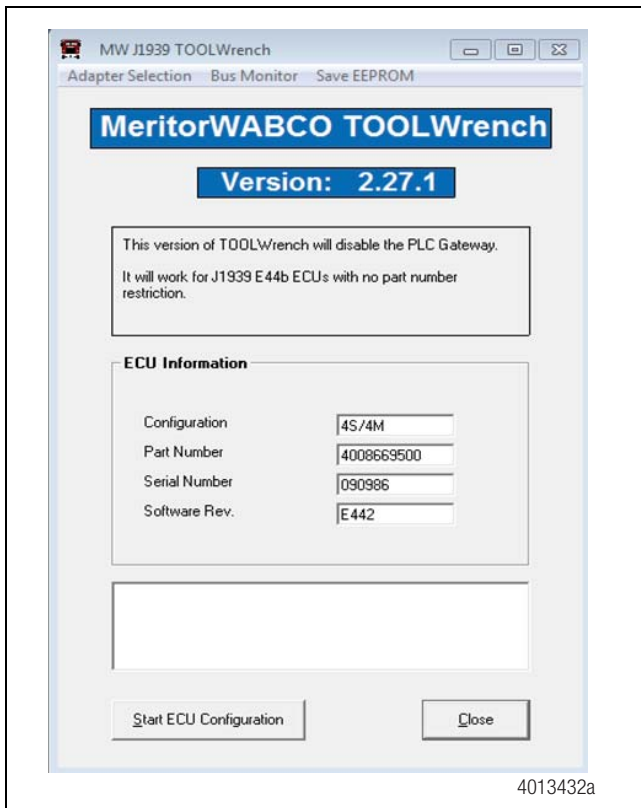

Figure 2
6. When installing the software, verify you are using the correct diagnostic adapter and protocol. If you are not sure, use the selection screen for diagnostic interfaces by selecting the "Adapter Selection" menu in the top toolbar of the TOOLWrench application. Figure 2.